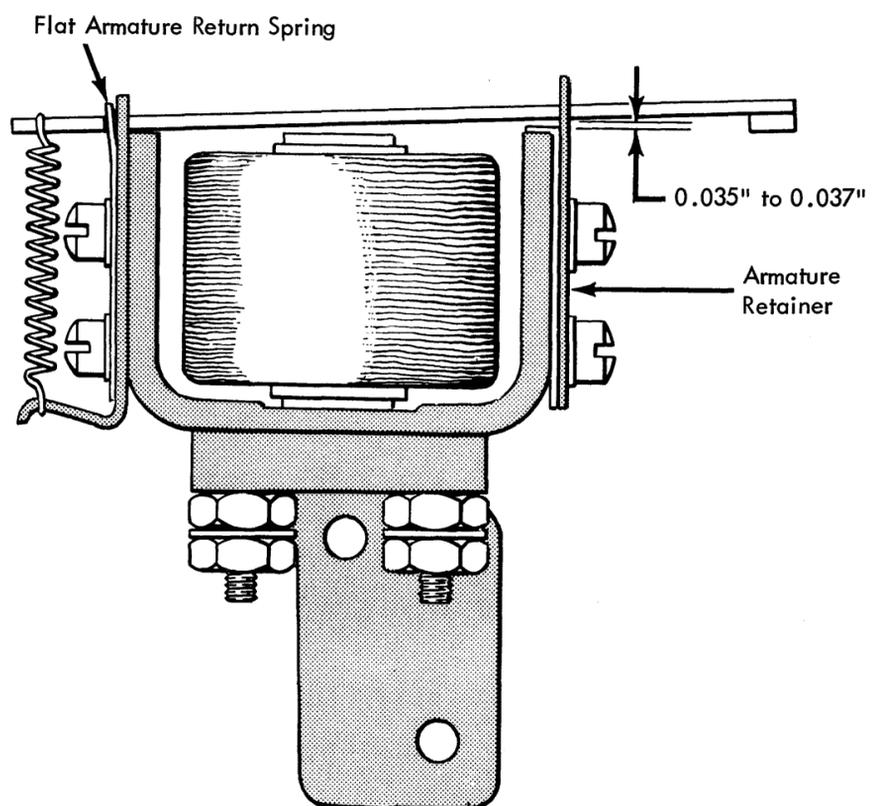

Figure 4-52. Print Suppression Magnet Adjustment
- Armature should be flat within 0.005 inch (Figure 4-52).